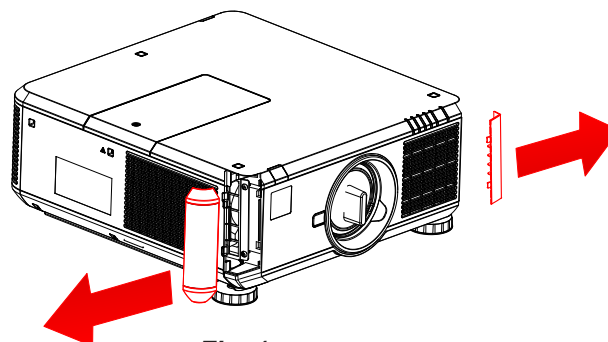

Fig. 1
1. Press the air filter covers, then pull them out as shown in **Fig. 1**.